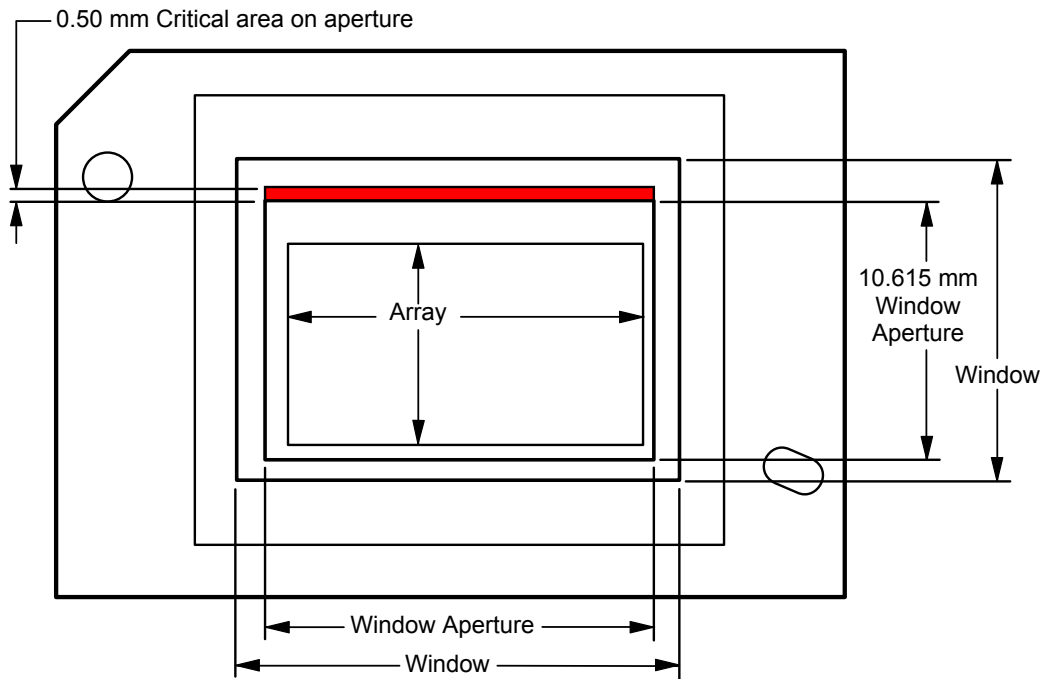

Figure 5-2. Illumination Overfill Diagram—Critical Area
- (17) Applies to the region in red in Figure 5-2
- (18) The maximum allowable optical power incident on the DMD is limited by the maximum optical power density for each wavelength range specified and the micromirror array temperature (T_{ARRAY}).
- (19) To calculate see Section 6.7.